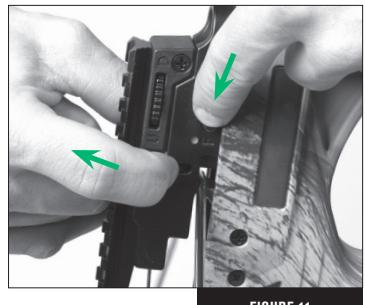

FIGURE 11
6. With foot firmly grounded in the stirrup, while holding the cocking preparation switch in the upward position, slide the safety switch to the "**OFF SAFE**" or **FIRE** position (Fig. 11).
1. Ensure that the crossbow is in the "**OFF SAFE**" or **FIRE** position. If the Safety is "**ON SAFE**", push and hold the cocking preparation switch upward. While holding the cocking preparation switch up, slide the safety switch from the "**ON SAFE**" position to the "**OFF SAFE**" or **FIRE** position (refer to Fig. 11). Release the cocking preparation switch.